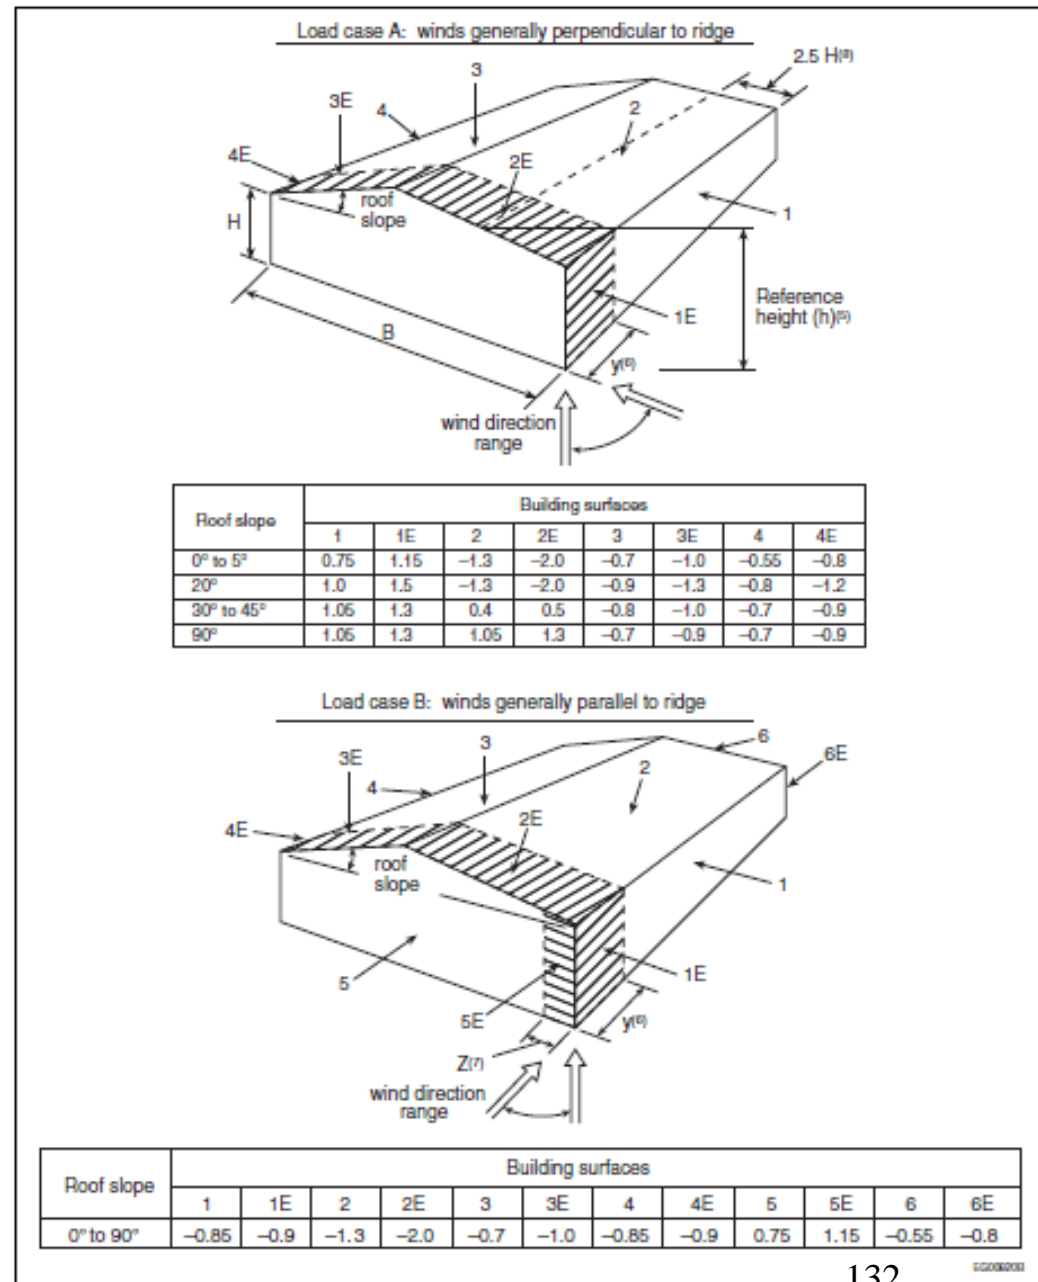

Figure I-7
Static low-rise procedure from NBC 4.1.7, Commentary I - Figures I-7 and I-8
4.1.7, Commentary I - Figures I-7 and I-8